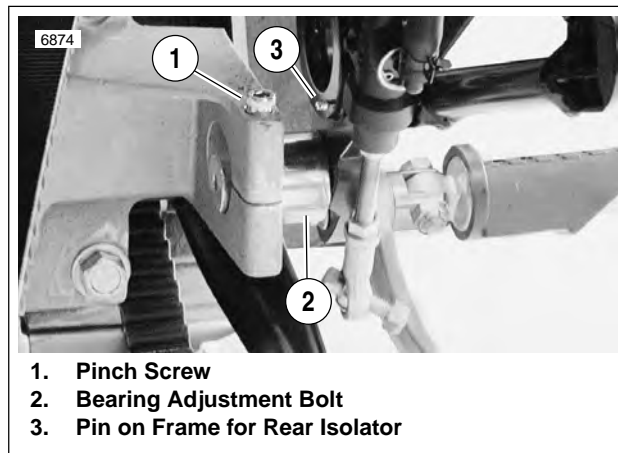

Figure 2-67. Swingarm Mount Block, Right Side
9. Using floor hoist, raise frame enough to remove both rubber isolators (6) from frame mounted pins.
10. Loosen swingarm pinch screw (4) on right side.
11. Remove threaded rod (1) from between bearing adjusting bolts (2, 3).
13. See Figure 2-67. Using floor hoist, raise frame while pushing down on swingarm. Frame must be raised until bearing adjustment bolts (2) clear pin on frame and can be removed.